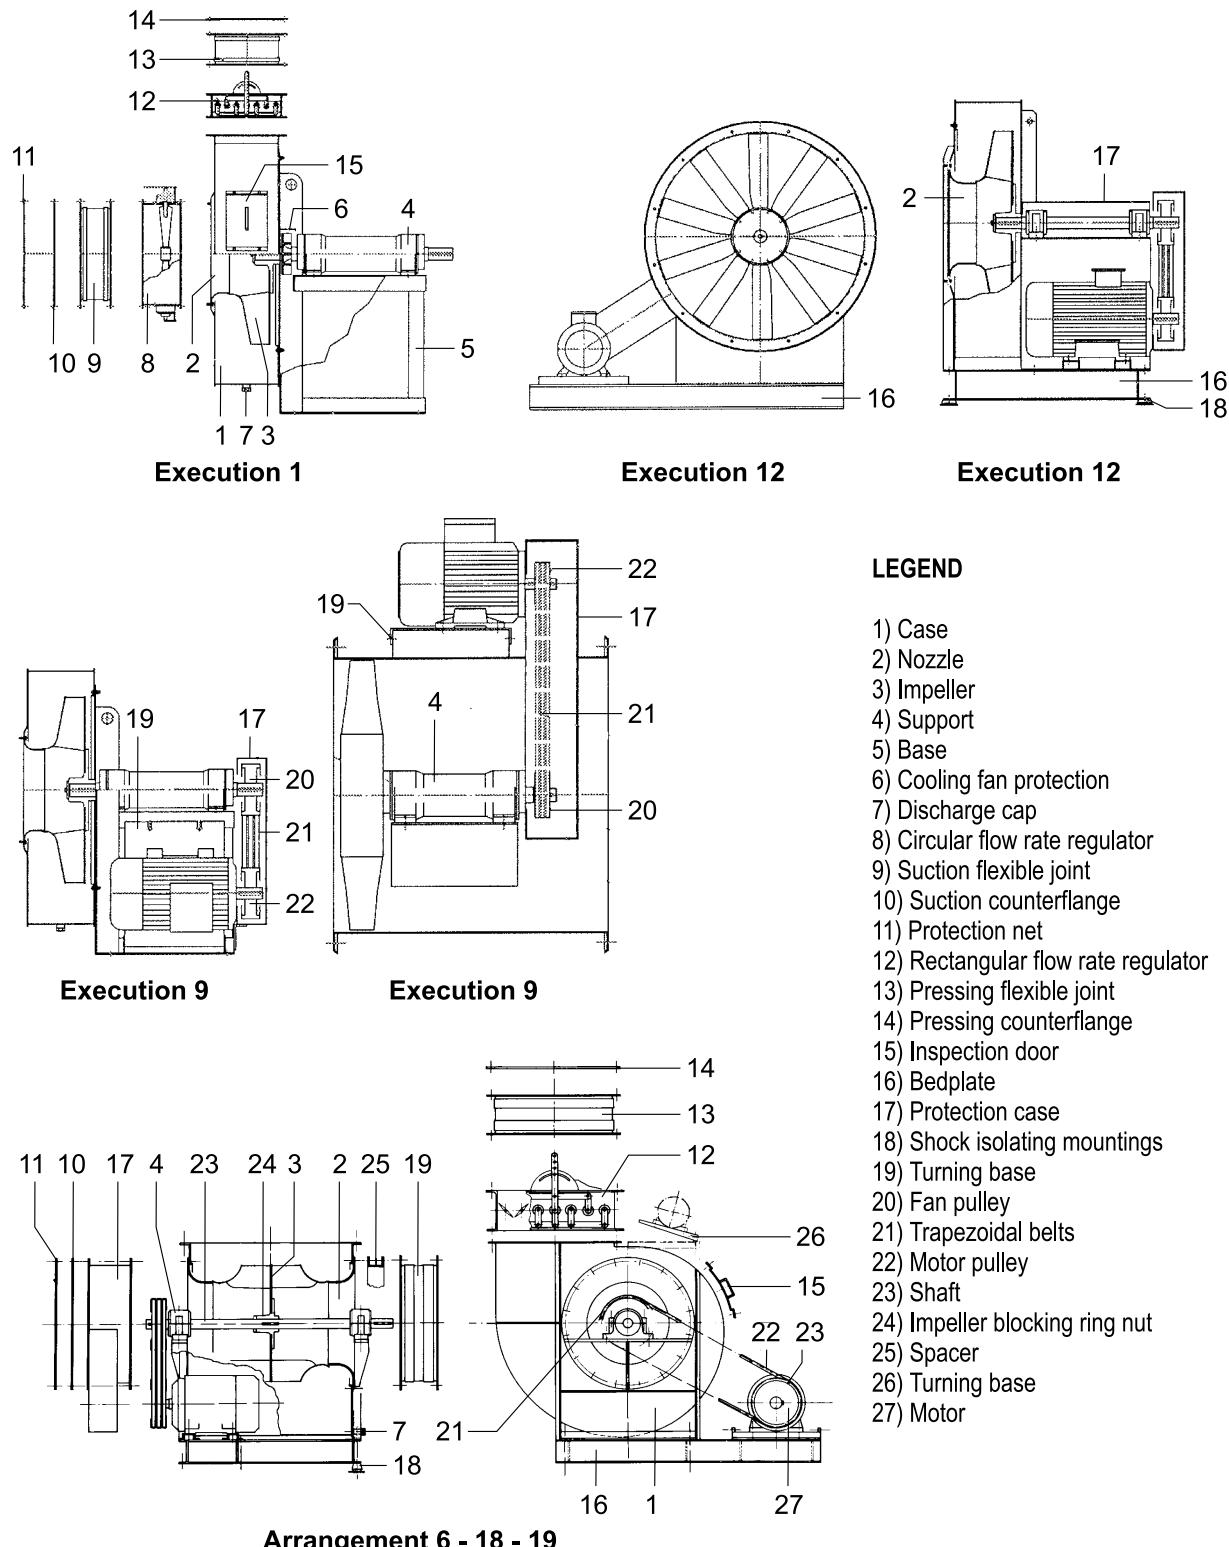

FIG. 5 (Indirect drive execution)
3.6.2- Indirect drive Execution (FIG. 5)